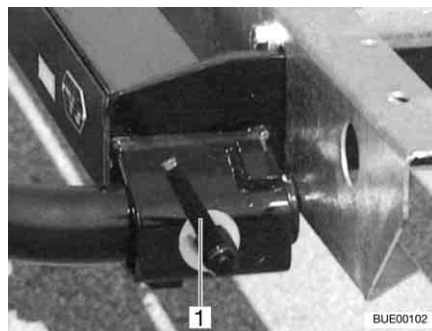

Fig. 8 Quick closure
- Insert the supports on the left and on the right into the holders on the frame and secure them with a quick closure (Fig. 8,1).
- Open the quick closure (Fig. 8,1) and pull the support from the holders on the frame.